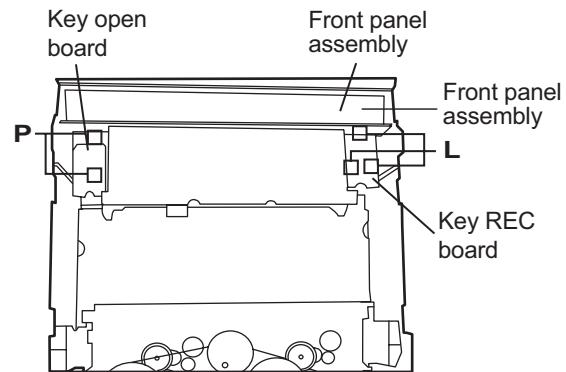
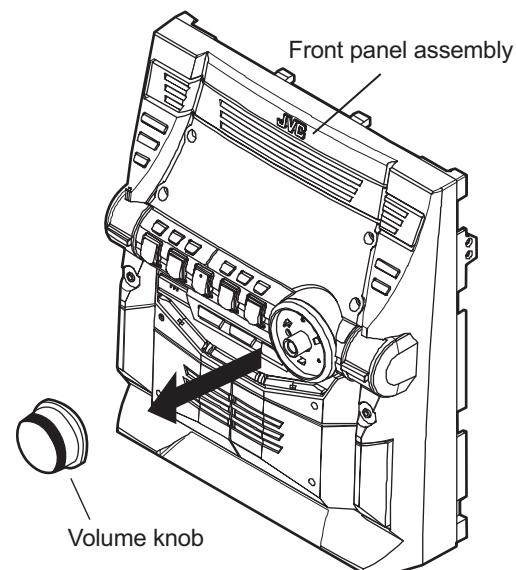

Fig.20
Fig.22
(See Fig.20)
(See Fig.20 to 23)
- (1) Pull out the volume control knob from the front of the front panel assembly.(Fig.22)
- (2) Remove six screws **Q** retaining the front panel assembly.
- (3) Remove the Control/FL board.
- (4) Remove eleven screws retaining the Switch (key 1) board.(Fig.20)